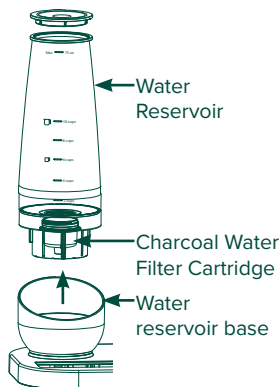

Figure: 1
- 2 Remove the water reservoir from the base. See Figure: 1.